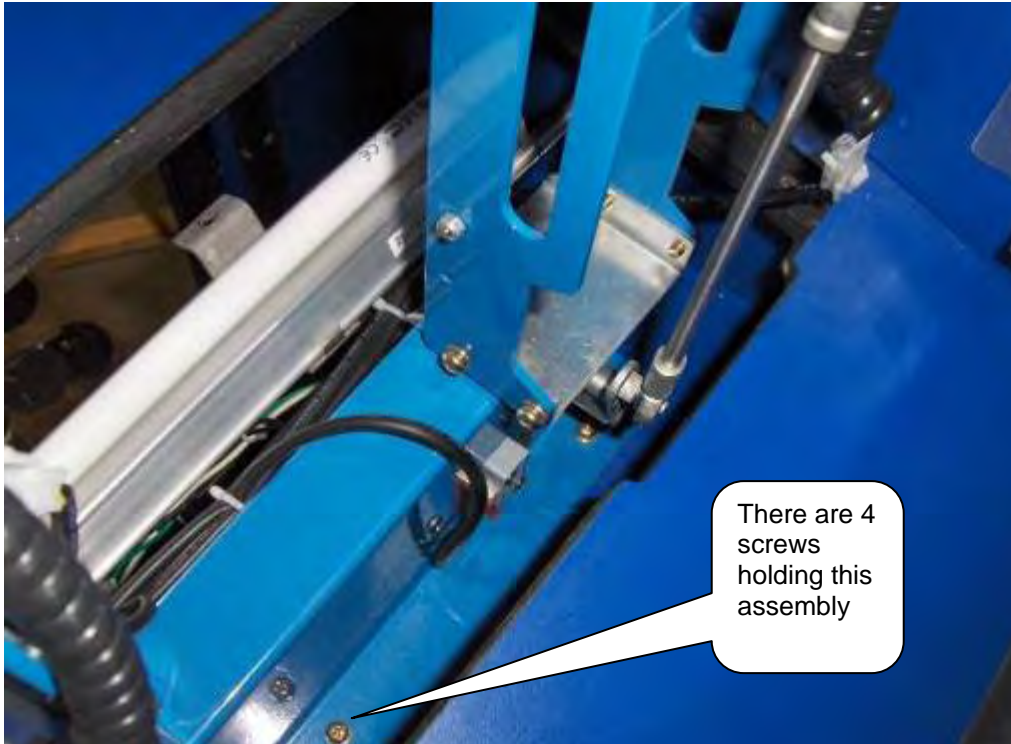

Fig. 8: Remove 4 screws holding shark head assembly.
6. Remove 4 screws holding shark head motors and mounts. (Fig 8)